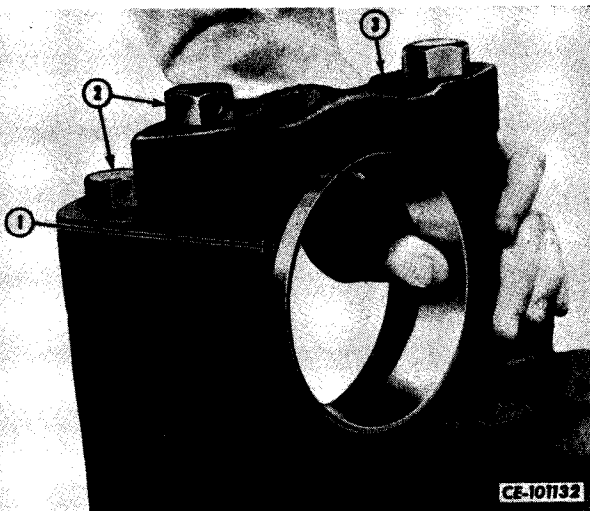

Figure 6-31
Temporarily install bearing cups (1, Fig. 6-31) and bearing caps (3). Tighten bearing cap retaining cap screws (2) to recommended torque (refer to "SPECIAL TORQUES").
The bearing cups (1, Fig. 6-31) must be a hand push fit in their respective bores. If cups are too tight, bores must be reworked with emery cloth until a push fit is obtained. Use a blued bearing cup as a gauge and check the fit often. When cups fit properly, remove the bearing caps.